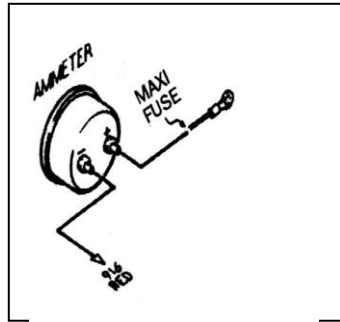

Figure 10-2 Ammeter & maxi Fuse
10.3 Connecting an Ammeter and the Maxi Fuse. See Figure 10-2.